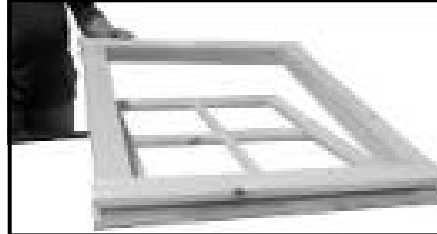

Fig A13
22. Place the window into the aperture (fig A13 ) **ensure that part WD** ( FIG A13) is against the hinges (TOP HUNG )**or** against the **WC** (side hung ) .